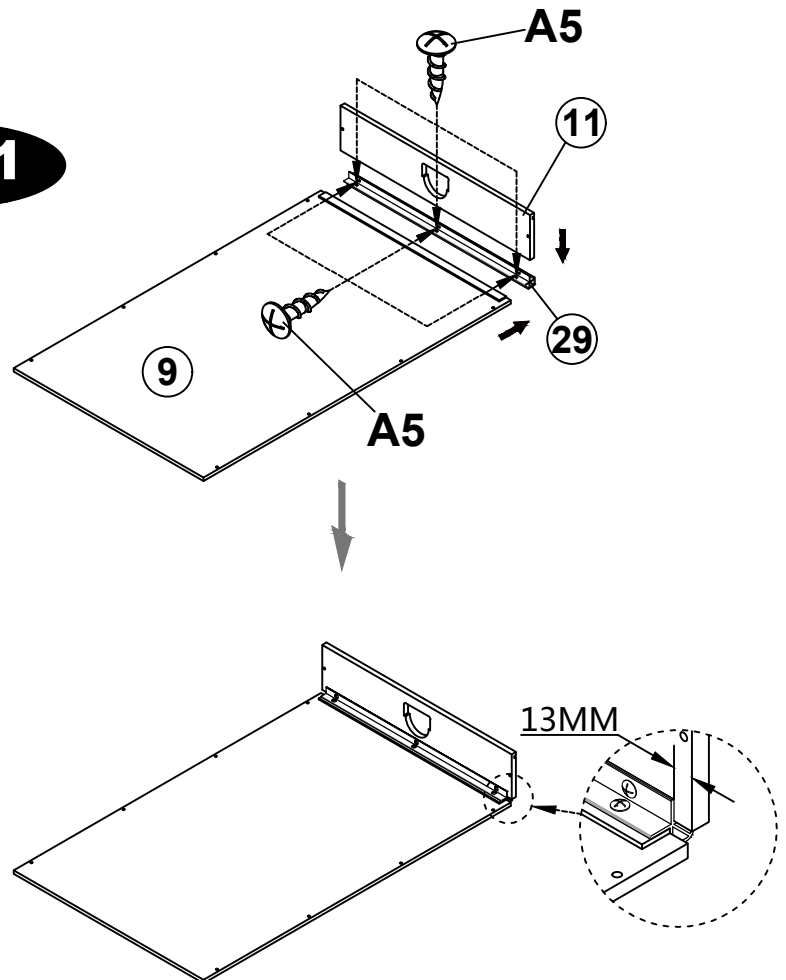

Fig 1
3. Attach the Corner(#29) to the Frame-A(#11) and the Chute Board-A(#9) using six Screws (A5) as shown FIG.1.